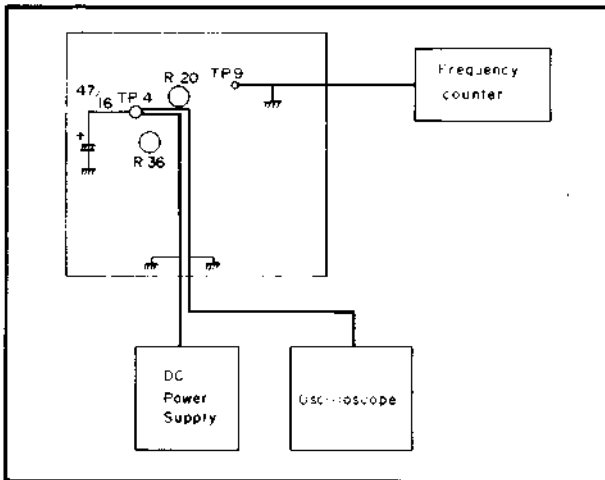

Fig. 5-20 Carrier and deviation adjustment setup
3. Connect the 47 μF 16 V capacitor between TP-4 (PRE-EMPHA. OUT) and ground as shown in Fig. 5-20.